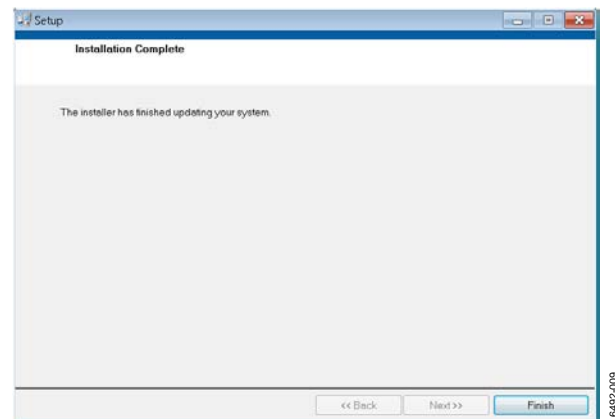

Figure 9. **ADXL372** Evaluation Board GUI Installation Complete
4. Click **Next** to start the installation. The installer completes installation of the software evaluation GUI and all required National Instruments drivers and run-time engines. After the installation is complete, the dialog box (see Figure 9) is displayed.